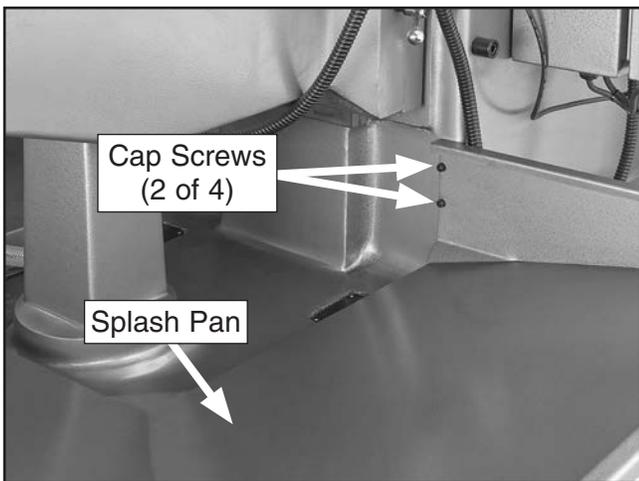

Figure 13. Splash pan installed.
6. Raise knee with Z-axis crank, remove the four pre-installed cap screws from both sides of column (see **Figure 13**).